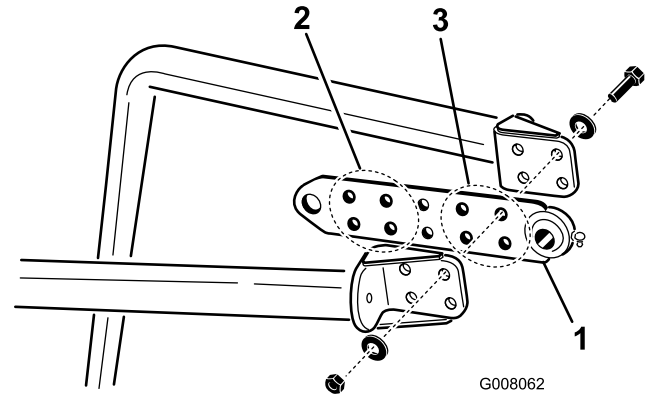

Figure 13
2. Secure the mount tab between the front of the tow-arms with (4) 1/2 x 2-1/4 inch screws, (8) washers and (4) locknuts. Position the tab as shown in Figure 13. Use the front set of holes for the 660 aerator and the rear set of holes for 864 and 880 aerators.